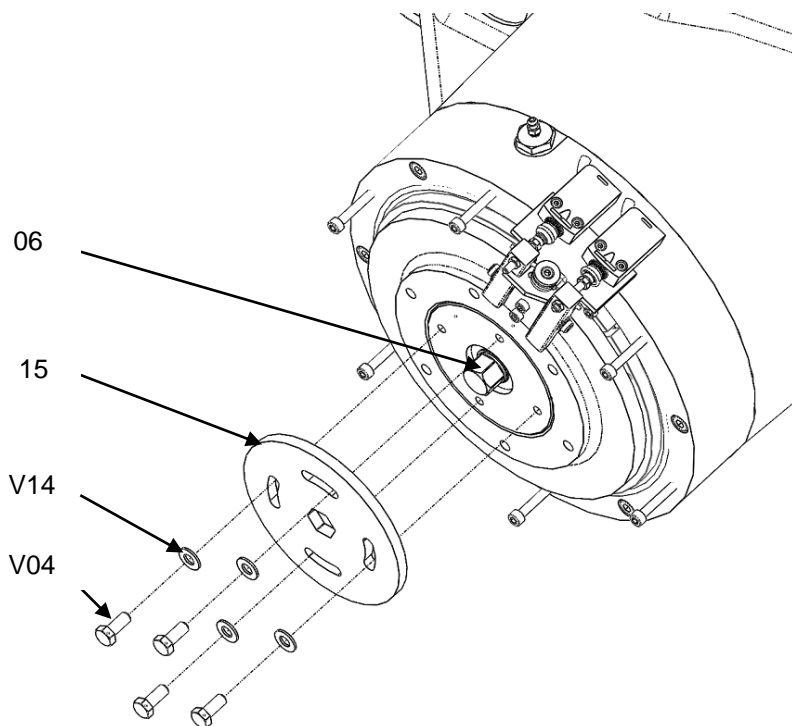

Fig. 5.4
4. Unscrew and remove the 2 screws **V04** and 2 washers **V14** Fig.5.4.
5. Remove the locking washer **15** to free the wear take up screw **06** Fig.5.4.
2. Cover being removed, unscrew and remove the allen screws **V04** and washers **V14** Fig. 5.4 see chapter 5.3
3. Remove the locking washer **15** to free the wear take up screw **06** Fig. 5.4 see chapter 5.3.